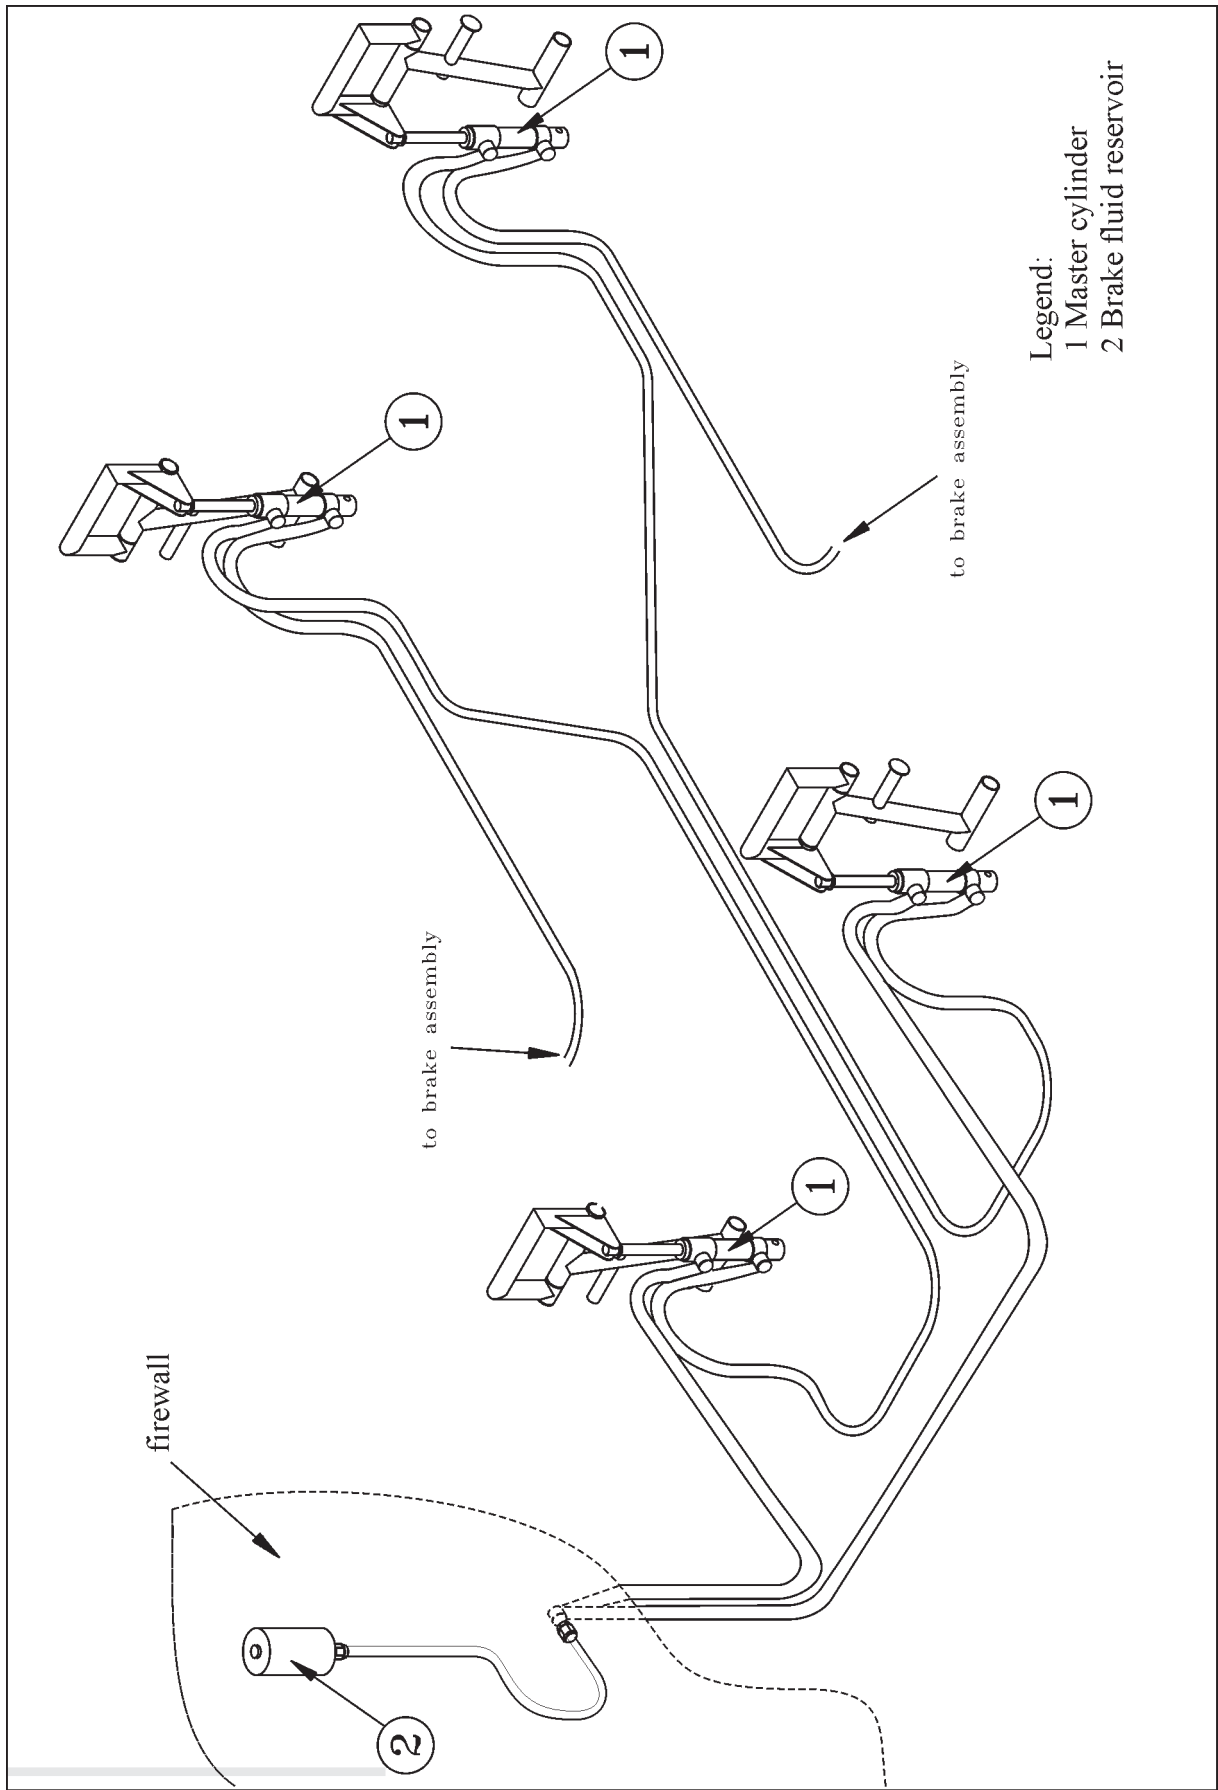

Figure 4
The brake system (refer to figure 4) consists of a brake assembly located at the inner side of the wheel, a master cylinder (1) at the front and rear rudder pedals each, and a brake fluid reservoir (2) mounted at the engine side of the firewall. The master cylinders are mounted in line, so that the front cylinder loses his efficiency, when the rear cylinder has been actuated. The particular parts of the brake system are interconnected by brake lines consisting of aluminium tubes and flexible KNAPP hoses.